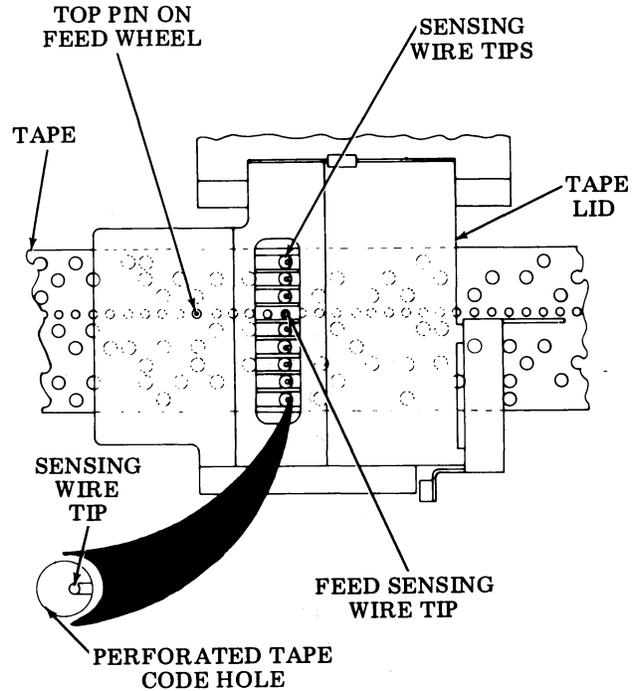

Figure 9 - Sensing Wires in Relation to Code Holes
3.15 The sensing wires should be adjusted so the wire tips are approximately in the center of the right 2/3 of the code and feed holes when the tape reaches its stop position at the end of the step cycle (Figure 9).